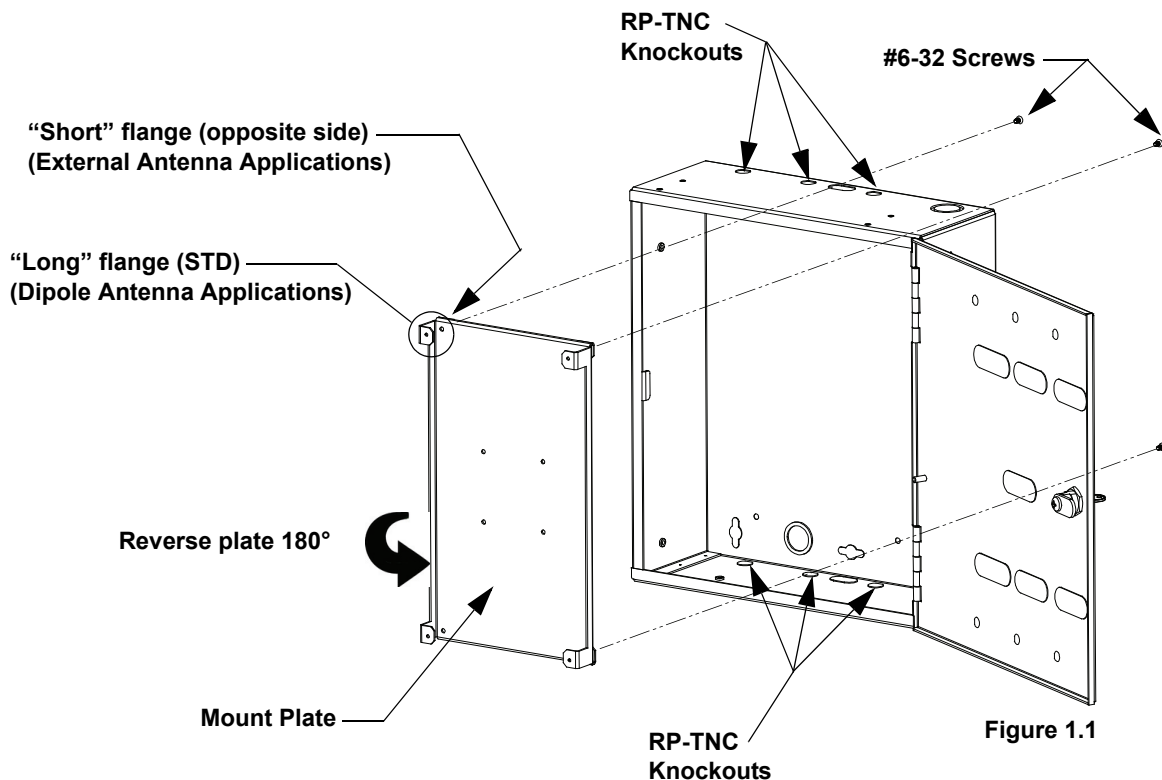

Figure 1.2
- 1.3 Install access point as shown in **Figure 1.2** for wall mounting applications.